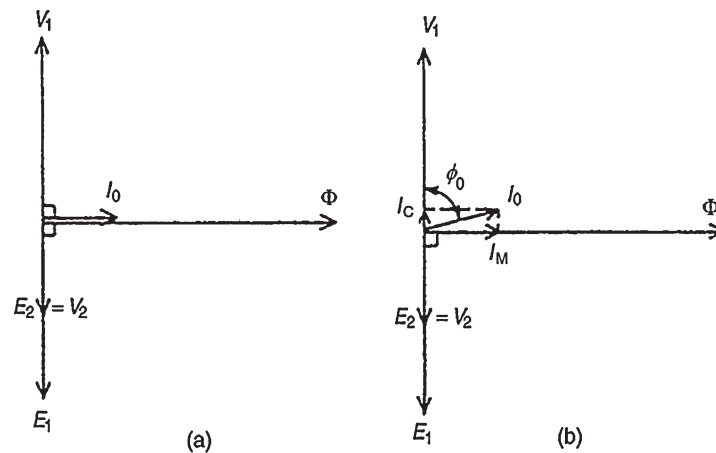

Figure 21.2
and since, with losses neglected, the primary winding is a pure inductor, this current lags the applied voltage V_1 by 90° . In the phasor diagram, assuming no losses, shown in Fig. 21.2(a), current I_0 produces the flux and is drawn in phase with the flux. The primary induced e.m.f. E_1 is in phase opposition to V_1 (by Lenz's law) and is shown 180° out of phase with V_1 and equal in magnitude. The secondary induced e.m.f. is shown for a 2:1 turns ratio transformer.
A no-load phasor diagram for a practical transformer is shown in Fig. 21.2(b). If current flows then losses will occur. When losses are considered then the no-load current I_0 is the phasor sum of two components – (i) I_M , the magnetizing component, in phase with the flux, and (ii) I_C , the core loss component (supplying the hysteresis and eddy current losses). From Fig. 21.2(b):
- (c) From the right-angled triangle in Fig. 21.2(b) and using Pythagoras' theorem, $I_0^2 = I_c^2 + I_M^2$ from which, magnetizing current,